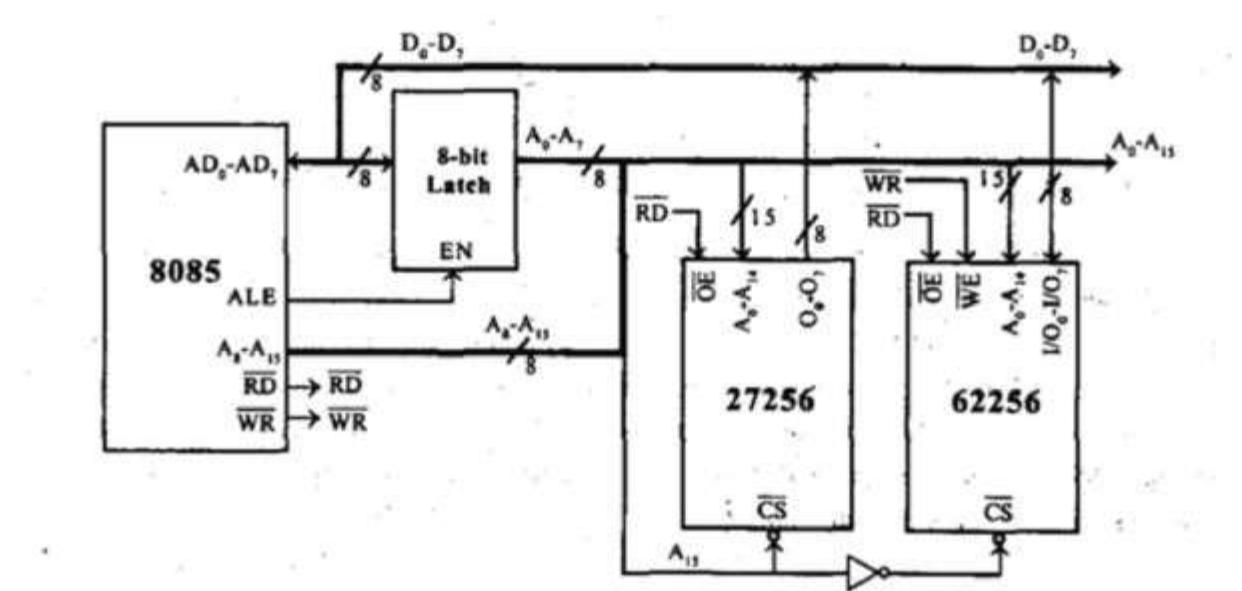

**FIGURE 4.20**
- Figure 4.20 shows the schematic of the interfacing circuit based on the problem analysis.